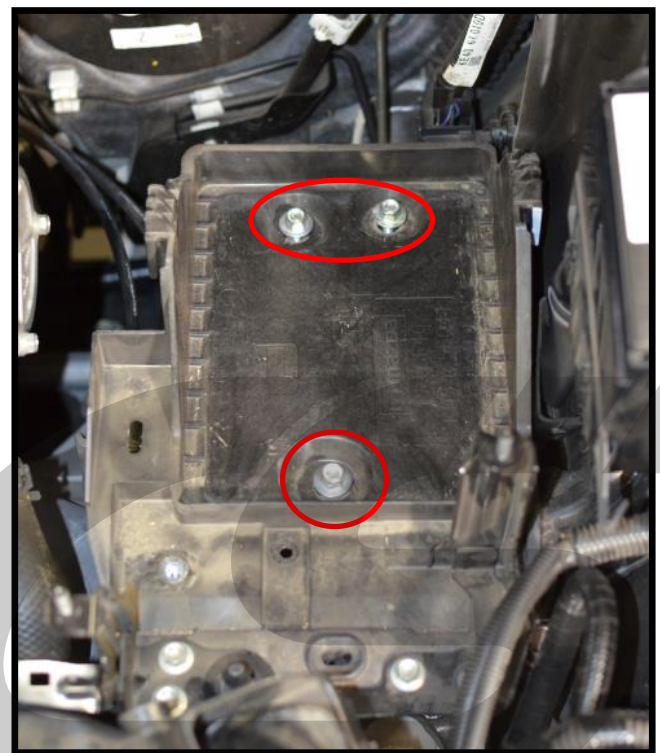

Figure 2e
m) Remove the three 12mm flange bolts then remove the battery tray from the vehicle. Shown with the red circles in Figure 2e.